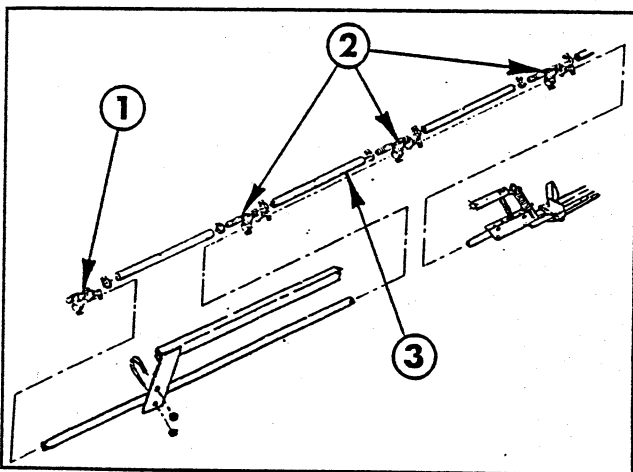

FIG. 15
52. Secure the two plates of boom support assembly to the extension boom pipe, using (2) 1/4" U-bolts, (4) flatwashers, and (4) locknuts (FIG. 15).
55. Attach three double barb and one single barb nozzle assemblies on each extension boom pipe as shown in FIG. 15. Nozzles are to be spaced on 20" centers. Connect the nozzle assemblies with the 3/4" x 19" jumper hoses. Secure with hose clamps.